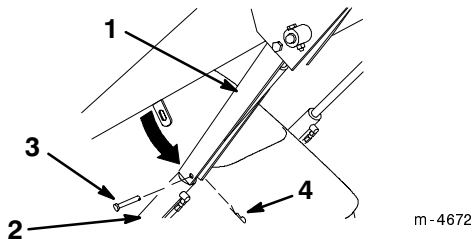

Figure 14
- Remove the hairpin cotter and clevis pin securing the cylinder lock to the loader arm (Fig. 14)
- Lower the cylinder lock over the cylinder rod and secure it with the clevis pin and hairpin cotter (Fig. 14).
- Rotate the cylinder lock up to the loader arm and secure it with the clevis pin and hairpin cotter (Fig. 14).